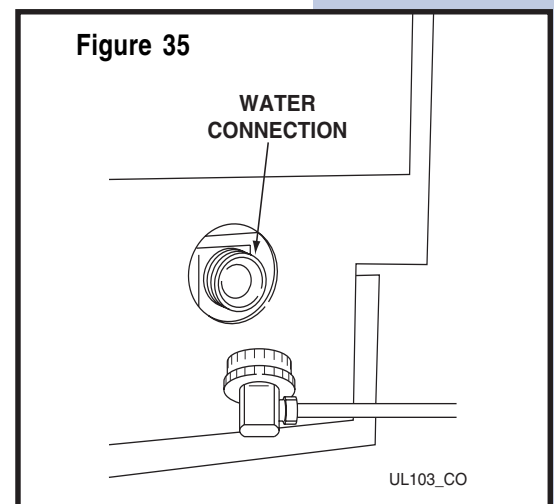

Figure 35
- 2 Pull the unit out to access the back panel (see **Figure 35**).
- 4 Disconnect the entire hose connector from the water solenoid valve (see **Figure 35**).